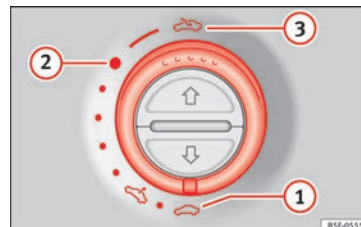

Fig. 11 On the interior roof lining: use the rotary button for opening and closing
- Opening: Turn the switch to position » » » **Fig. 11** ③.
- Convenience position: Turn the switch to position » » » **Fig. 11** ②.
- Closing: Turn the switch to position » » » **Fig. 11** ①.